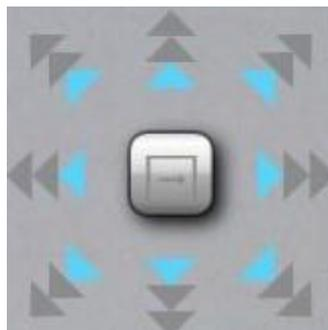

Figure 10. Image Navigation Icon
9. In the bottom-right corner of the live image, there is a gray box. Click on it to reveal navigation arrows, which can be used to move the sample stage and navigate across the sample, as shown in Figure 10. You can also double-click on the live image to center the area you wish to focus on.